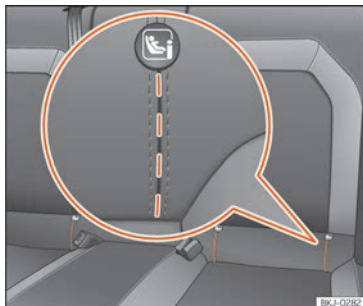

Fig. 24 Rear seat: slots die cut to access the ISOFIX / iSize securing rings.
backrest and the seat cushioning » » » **Fig. 24.** The Top Tether rings are located on the rear part of the rear seat backrests (behind the backrest or in the luggage compartment) » » » **page 34.**
- Open the cut-out section behind the marked grooves to access the retaining rings » **Fig. 24.**